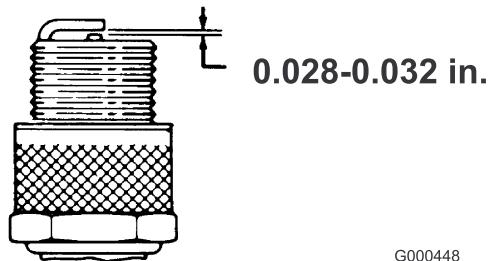

Figure 24
3. Set the air gap at 0.028 to 0.032 inch (0.05 to 0.07 cm) (Figure 24).